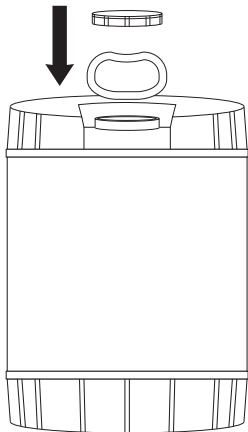

Figure 2
2. Tighten rieke cap to specifications (120 In. LBS.). (See Figure 2)